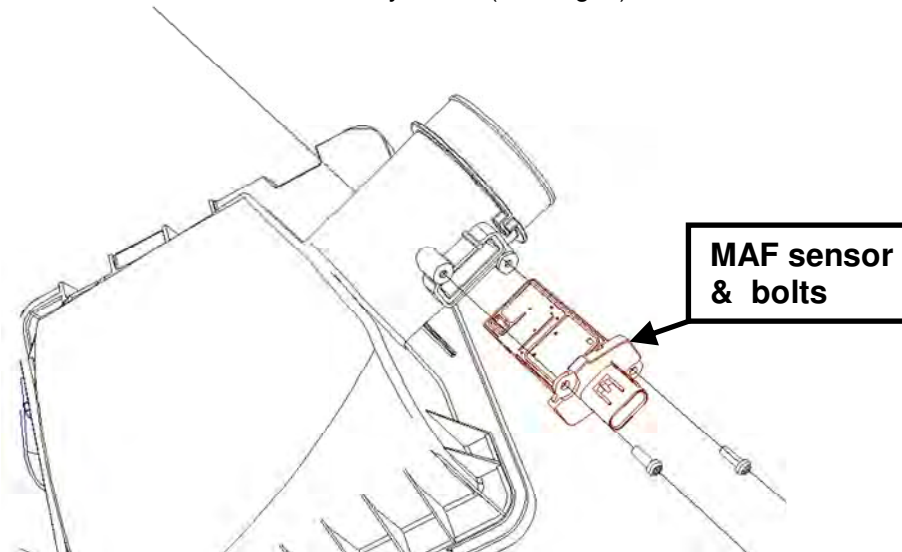

Fig. 3
STEP 6: Remove MAF bolts and MAF from the factory airbox (See Fig. 3).